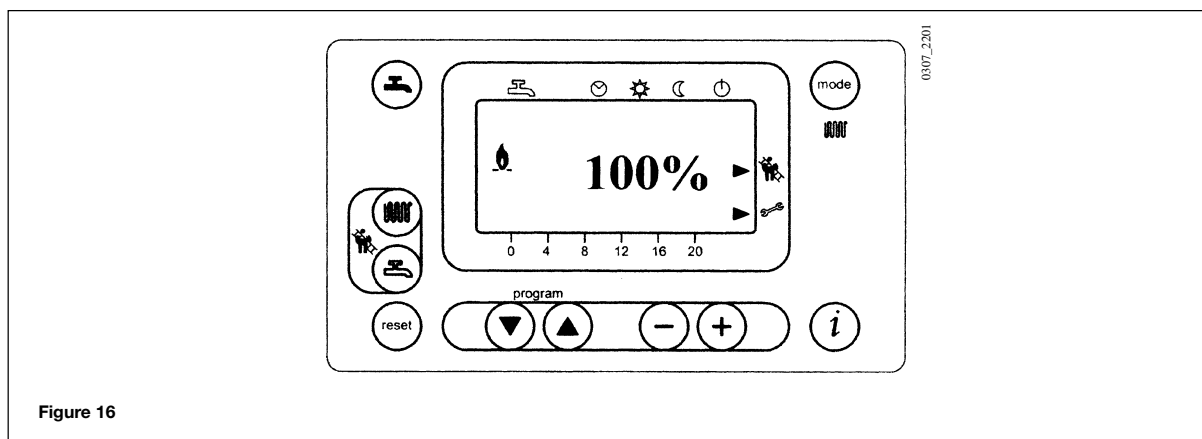

Figure 16
- 1) Press the keys (2-3) together until the display shows the pointer "►" alongside the and symbols (about 6 seconds) (see fig. 16).